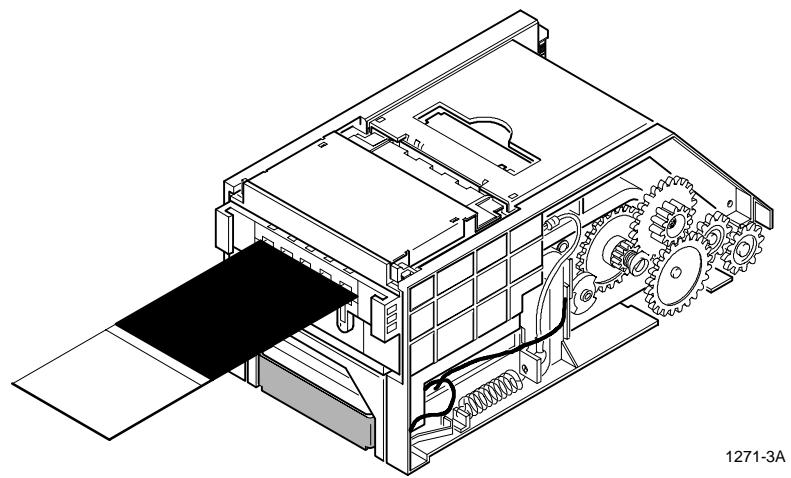

Figure 1-4. Bill Acceptor Test Paper Insertion.
4. Insert the test paper into the sensor assembly, black end first (see Figure 1-4).